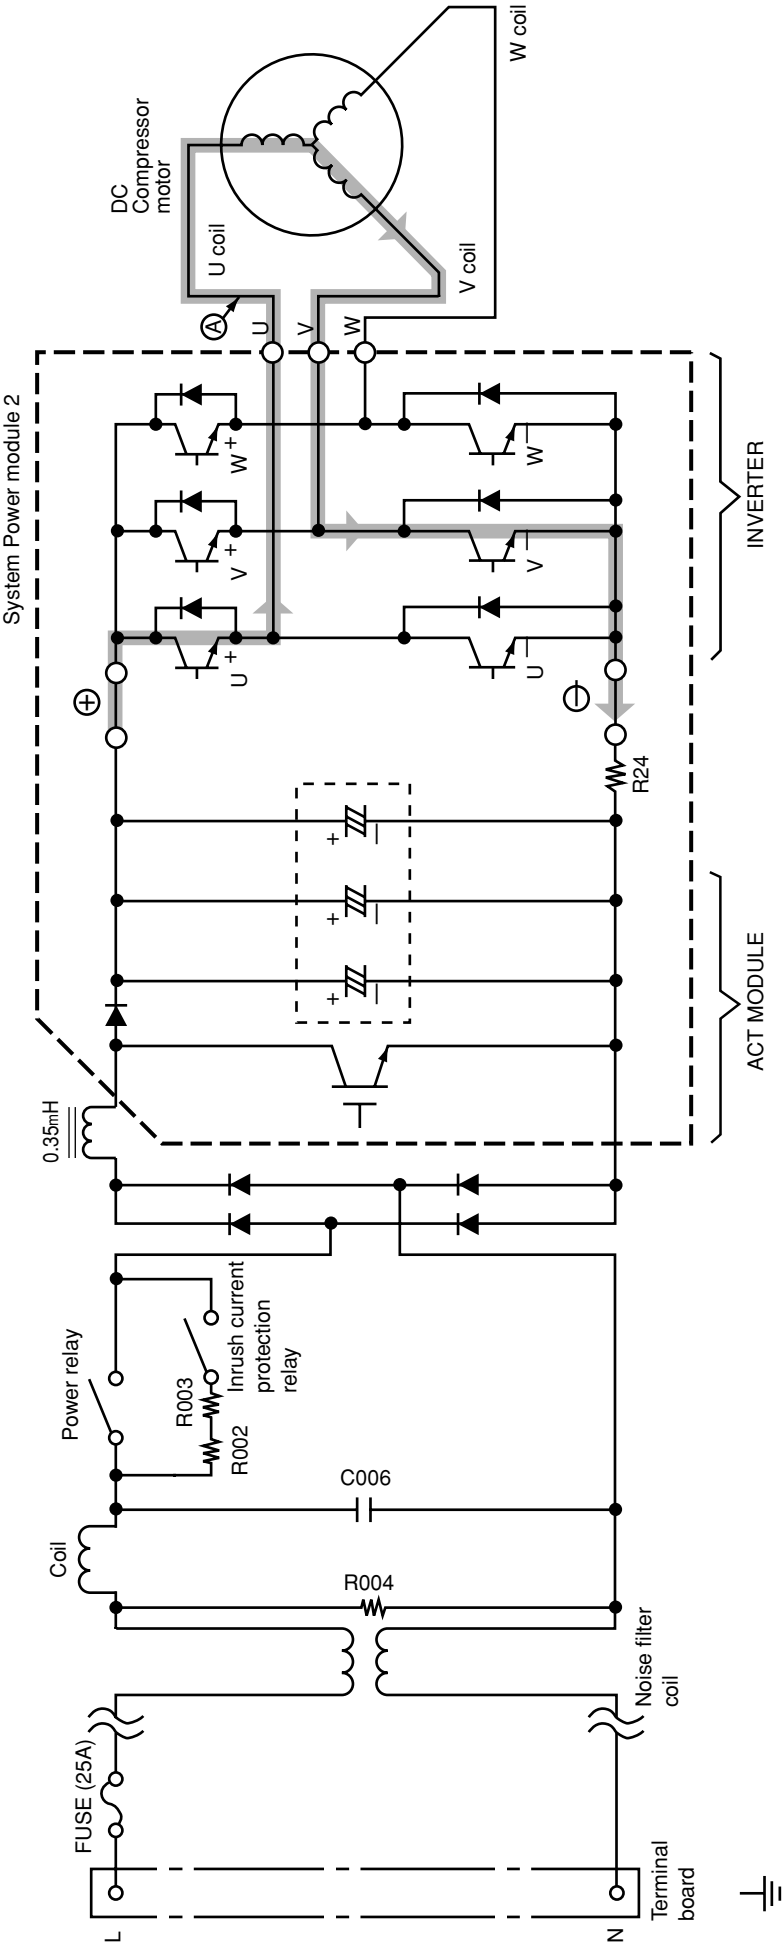
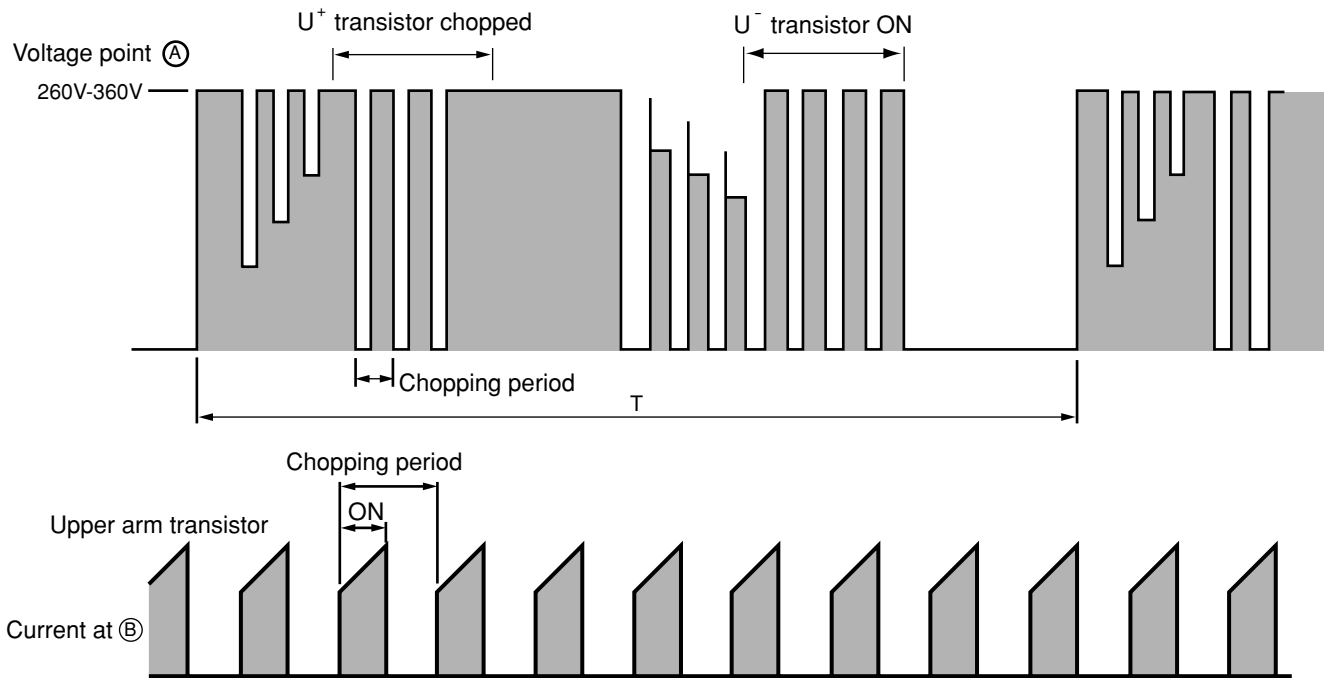

Fig. 3-1 System power module circuit (U⁺ is ON, V⁻ is ON)
Fig. 3-3 Voltage waveform at each point
- Fig. 3-1 shows the system power module and its peripheral circuit. (Current ACT module and power module are combined into one unit.) The three transistors on the positive \oplus side are called the upper arm, and the three transistors on the negative \ominus side, the lower arm.
- Fig. 3-3 shows voltage/current waveform at each point shown in Figs. 3-1 and 3-4. First half of upper arm is chopper, second half is ON, and first half of lower arm is chopper, second half is ON.
- When power is supplied $U^+ \rightarrow U^-$, because of that U^+ is chopped, current flows as shown below; ②
- (1) When U^+ transistor is ON: U^+ transistor \rightarrow U coil \rightarrow V coil \rightarrow V^- transistor \rightarrow DC current detection resistor \rightarrow Point ② (Fig. 3-1)
- Since current flows at point (B) only when U^+ transistor is ON, the current waveform at point (B) becomes intermittent waveform as shown in Fig. 3-3. Since current at point (B) is approximately proportional to the input current of the air conditioner, input current is controlled by using DC current (I_d) detection resistor.